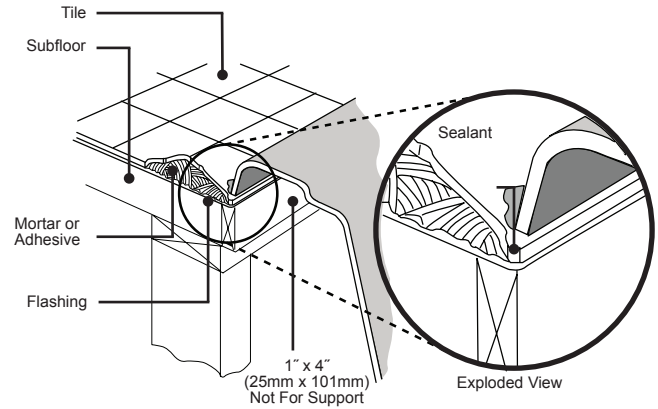

Figure 7 - Surround Installation
Complete the bathtub surround installation (Figure 7).
- 14** Caulk around the perimeter of bathtub to seal the space between the rim and the finished deck (Figure 7 on previous page).